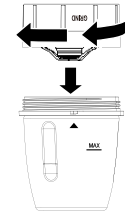

Fig. 1
- Put the prepared ingredients (e.g. coffee bean, soya bean, rock sugar, sesame, dry coriander, cumin seed, black pepper, garam masala etc.) into the Stainless-steel jar only (Fig 1).
- Cover & screw the Stainless-steel Jar with the Grinding Blade (2-Leaf) lid for grinding (Fig. 1).